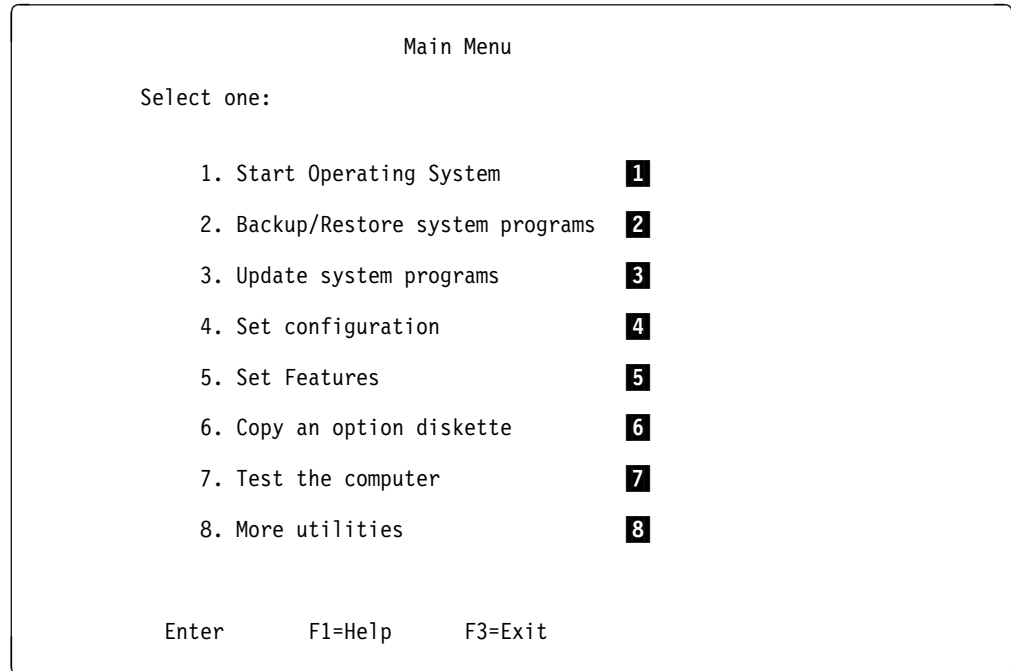

Figure 12. System Programs - Main Menu
4. When the F1 prompt appears, press F1. A second IBM logo panel appears, followed by the system programs Main Menu. The Main Menu is shown in Figure 12 on page 21.
After a few moments, the system programs Main Menu appears. It will look similar to the one in Figure 12 on page 21.
Regardless of whether you started the system programs by booting from the system partition or from the reference diskette, the main menu similar to Figure 12 on page 21 will be displayed.